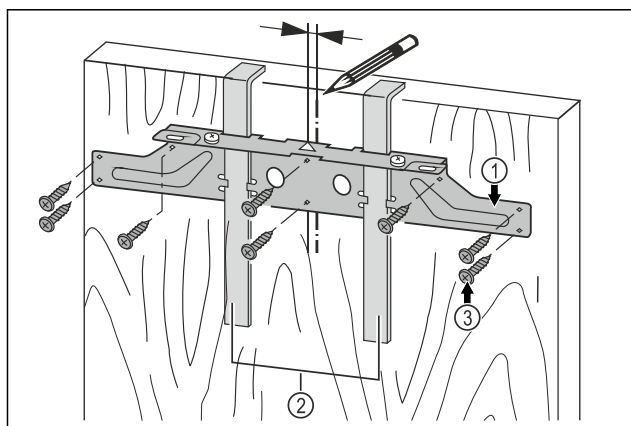

Fig. 43
- Align the fastening crossbeam Fig. 43 (1) in the center of the door.
- Left piping: Move the fastening crossbeam Fig. 43 (1) 6 mm (1/4 in) to the left.
- Right piping: Move the fastening crossbeam Fig. 43 (1) 6 mm (1/4 in) to the right.